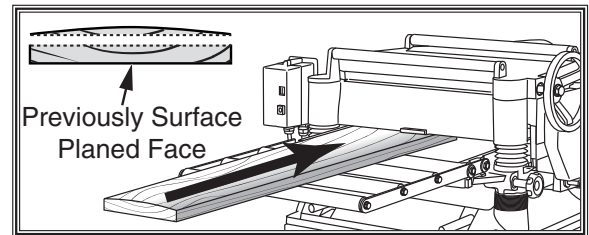

Figure 27. Surface plane on a thickness planer.
2. **Surface Plane on a Thickness Planer:** The opposite face of the workpiece is surface planed flat with a thickness planer (see **Figure 27**).